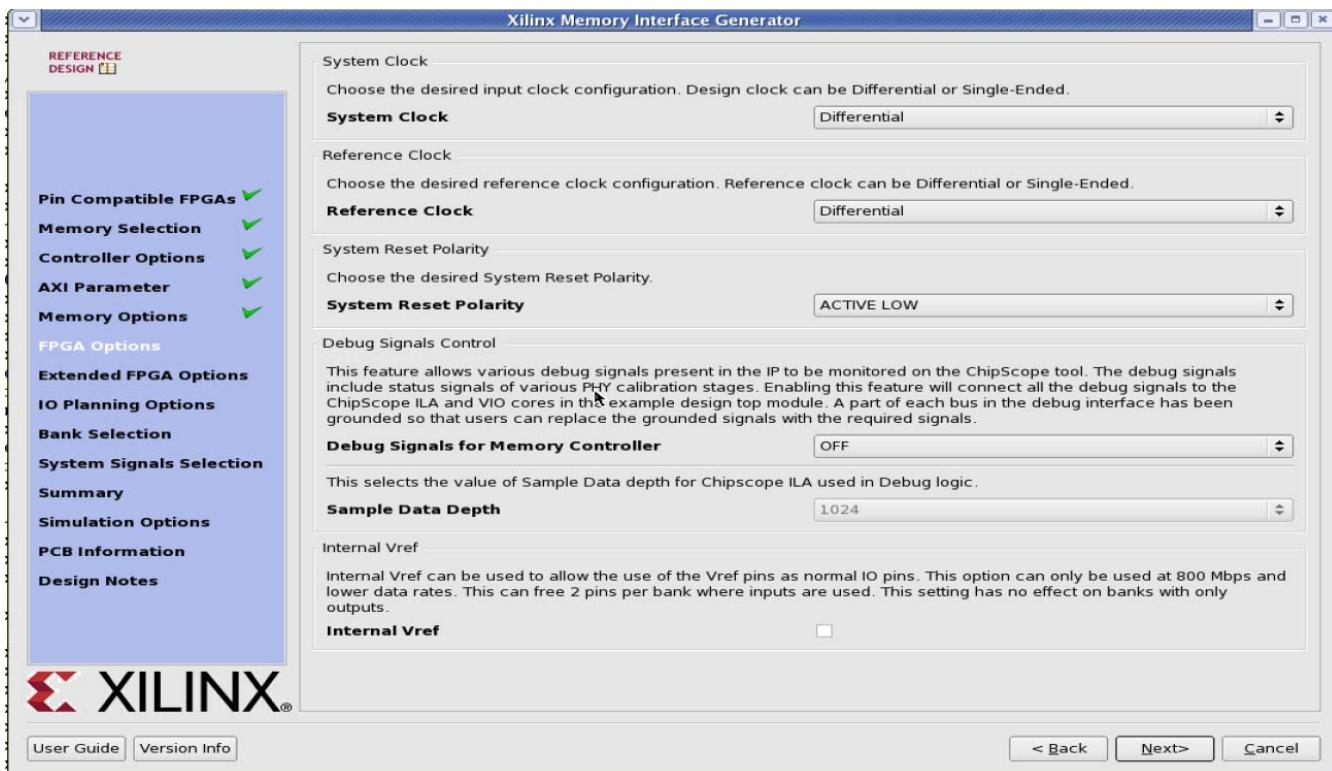

Figure 3-20: **FPGA Options Page**
Figure 3-20 shows the **FPGA Options** page.
- **sys\_clk** – This is the system clock input for the memory interface and is typically connected to a low-jitter external clock source. Either a single input or a differential pair can be selected based on the **System Clock** selection in the **FPGA Options** page (Figure 3-20). The sys\_clk input must be in the same column as the memory interface. If this pin is connected in the same banks as the memory interface, the MIG tool selects an I/O standard compatible with the interface, such as DIFF\_HSTL\_I or HSTL\_I. If sys\_clk is not connected in a memory interface bank, the MIG tool selects an appropriate standard such as LVCMOS18 or LVDS. The XDC can be modified as desired after generation.
- **clk\_ref** – This is the reference frequency input for the IDELAY control. This is a 200 MHz input. The clk\_ref input can be generated internally or connected to an external source. A single input or a differential pair can be selected based on the **System Clock** selection in the **FPGA Options** page (Figure 3-20). The I/O standard is selected in a similar way as sys\_clk above.
- **sys\_rst** – This is the system reset input that can be generated internally or driven from a pin. The MIG tool selects an appropriate I/O standard for the input such as LVCMOS18 and LVCMOS25 for HP and HR banks, respectively. The default polarity of sys\_rst pin is active-Low. The polarity of sys\_rst pin varies based on the **System Reset Polarity** option chosen in **FPGA Options** page (Figure 3-20).